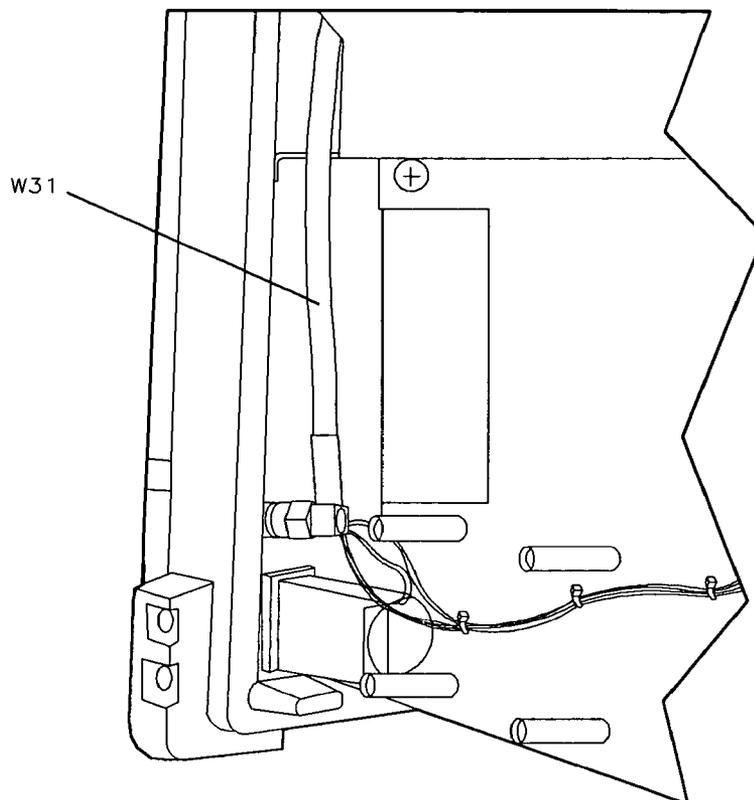

Figure 3-34. Position of W31 (Inside Front Cover)
6. Carefully place the front-frame assembly onto the analyzer while guiding the RF INPUT cable W10 onto its front-panel connector. The black RF OUT cable W31 should be routed as shown in Figure 3-34.